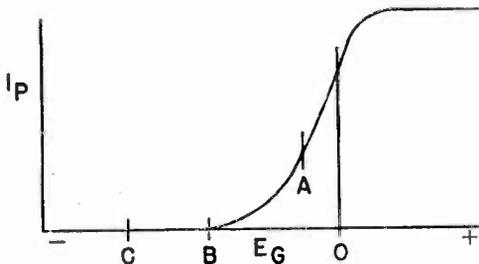

Fig. 2-152.
*Ans.* Figure 2-152 shows how the plate current of a vacuum tube varies with different grid voltage values. Since no distortion of the wave form is permitted for true class A operation, the grid of the tube must never swing positive, nor should the tube operate over a curved region of the characteristic.
*Ans.* As shown in Fig. 2-152, a class A amplifier operates with a bias such that the tube operates on the straight portion of the characteristic curve. If distortionless operation is to result, the applied signal voltage must not be so great as to extend the operation into the lower bend of the curve or to drive the grid positive.